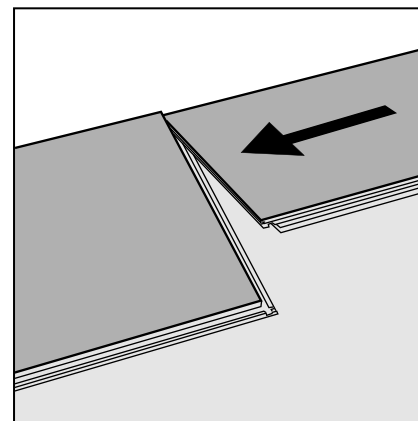

Figure 12 Second plank, first row
- ▶ Place the short end of the second tile or plank close to the corresponding short end of the previous one. Carefully fold it down with a single action movement (Fig 12).